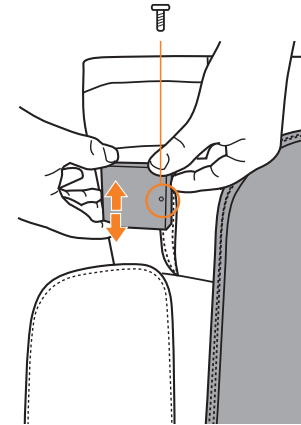

Fig.12
4. If the screw is not exposed, flip the battery compartment over (without disturbing the wiring) to expose the screw, then use the provided screwdriver to remove the screw (Fig.12).